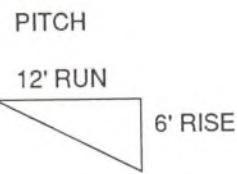
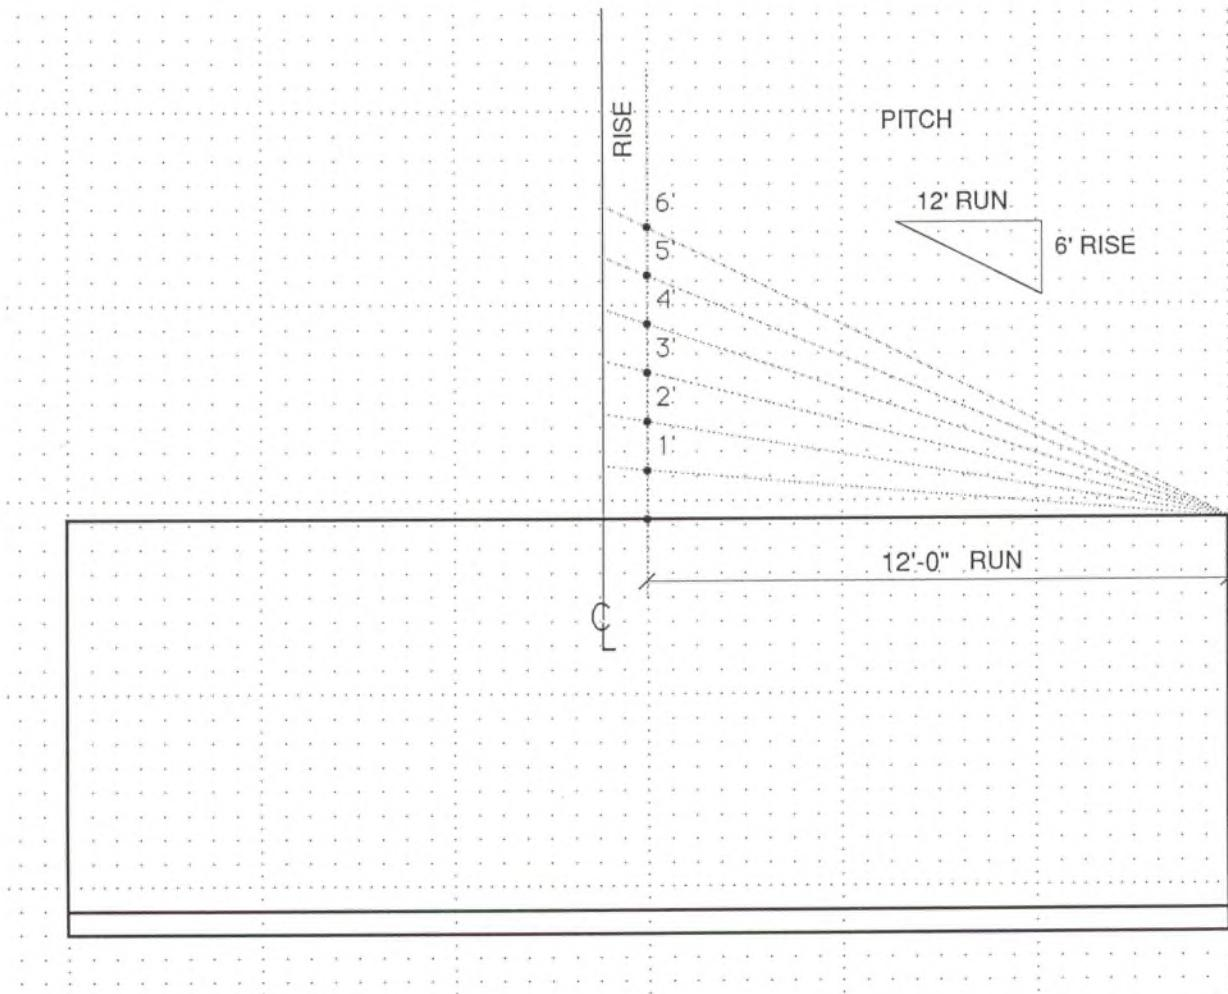

Fig. 24.7a Symbol to show the roof pitch.
Fig. 24.7 How to figure the roof pitch.
The word pitch means the angle of incline of a roof, or its slope. The degree of pitch is figured by increasing the angle of rise (or slope) 1 ft, for every 12 ft of run. This is illustrated in Fig. 24.7.
The symbol for roof pitch is a triangle showing the number of feet of rise for each foot of run. The symbol is shown in Fig. 24.7a. It is placed on the drawing as shown in Fig. 24.7.
4. If your drawing is wider than 24', as shown in Fig. 24.7, extend the line at the same angle to intersect with the centerline of the building.